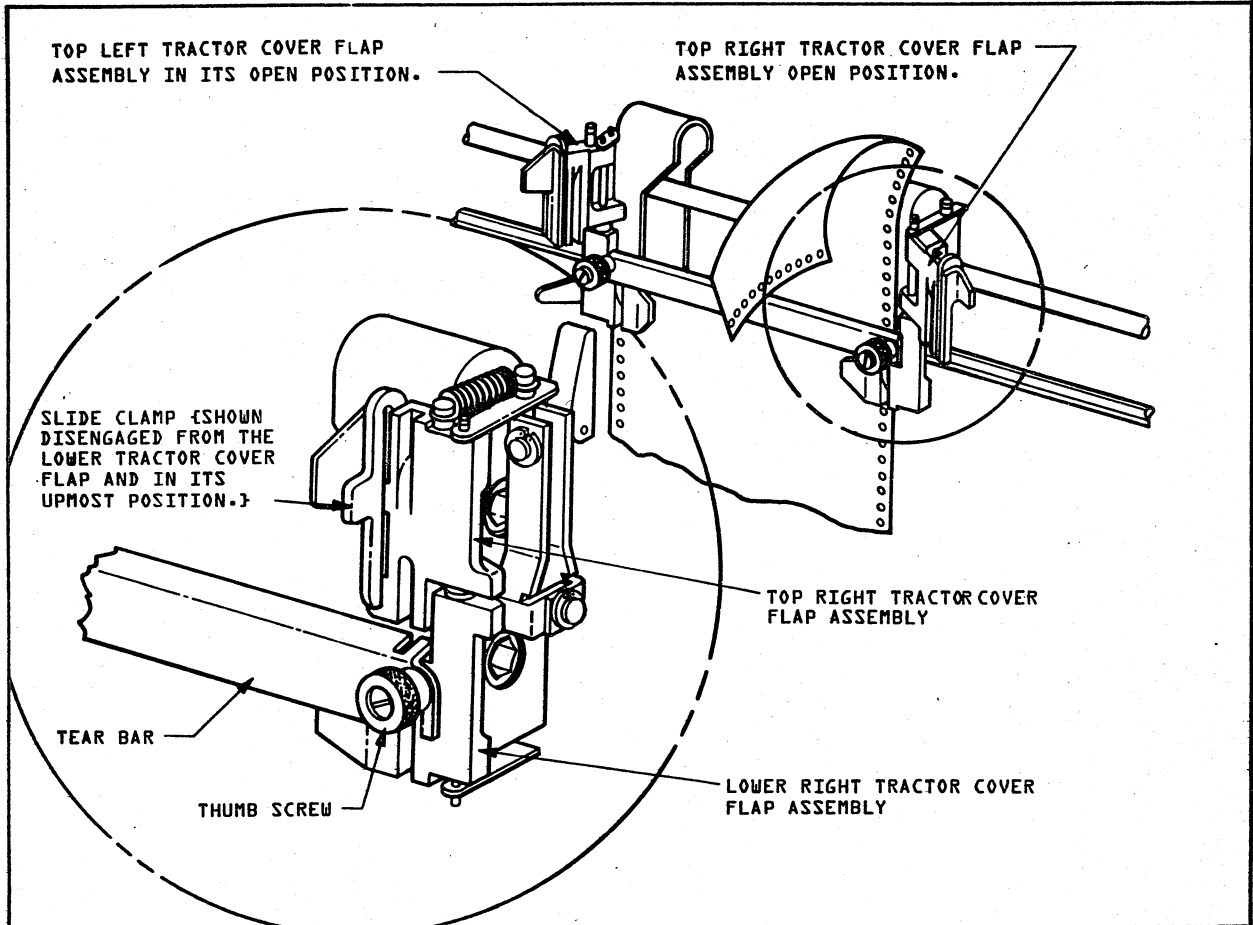

FIGURE 2-9. TEAR BAR OPERATION
Tear Bar Operation (Figure 2-9).
Tear Bar Installation And Removal (Figure 2-9)
When using the tear bar, the slide clamp on the top right and top left tractor cover flap assemblies must be disengaged from the lower right and left tractor cover flap assemblies. This is accomplished by sliding the slide clamp to its upmost position (Figure 2-9).
When installing or removing the tear bar the top right and top left tractor cover flap assemblies must be in their open position (Figure 2-9). The tear bar is mounted between the lower left and lower right tractor cover flap assemblies and is held in place with two thumb screws. With the tear bar screwed in place, the tractors are tied together and will accept 8.5 inch (216.0 mm) wide forms (Figure 2-9).
Tear Bar Forms Installation (Figure 2-9)
1. Turn the printer off and remove the front cover. Open the right and left hand top tractor cover flap assemblies. Loosen the two thumb screws that retain the tear bar and remove the tear bar. Open the lower right and left hand tractor cover flap assemblies (Figure 2-9).
Tear Bar-Forms Tearing Operation (Figure 2-9).
blies must both be in the open position (as shown in Figure 2-9) before forms may be torn off against the tear bar. When tearing forms, grasp the forms in the upper left hand corner, pulling the form forward against the tear bar and to the right as shown in Figure 2-9. After tearing forms and before resuming printing, both the top right and top left tractor cover flap assemblies must be in the closed position.